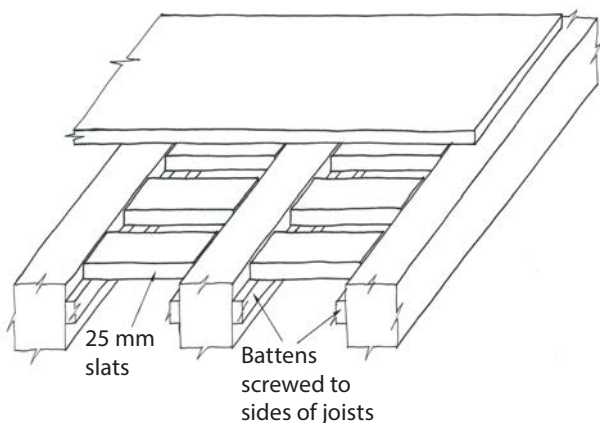

Figure 7: Giving additional support to a weak board.
3. Lay 25 mm thick slats on battens under the weakened board (see figure 7).